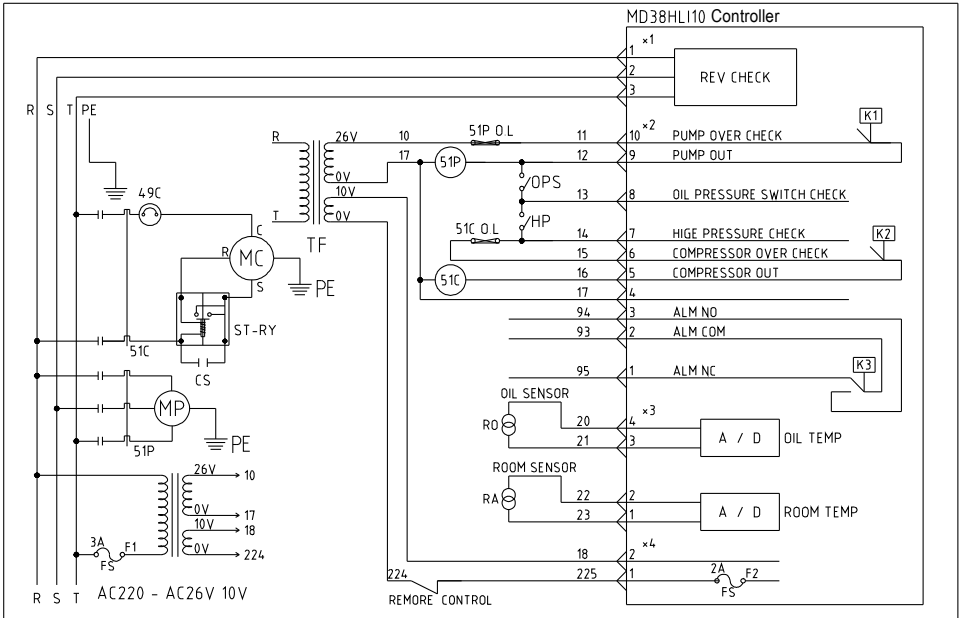

Figure 9.
(4) Figure 9 and 10 are the standard circuit diagrams.
- ● MO338 single temperature display (SA series controller) circuit diagram, please refer to figure 9.